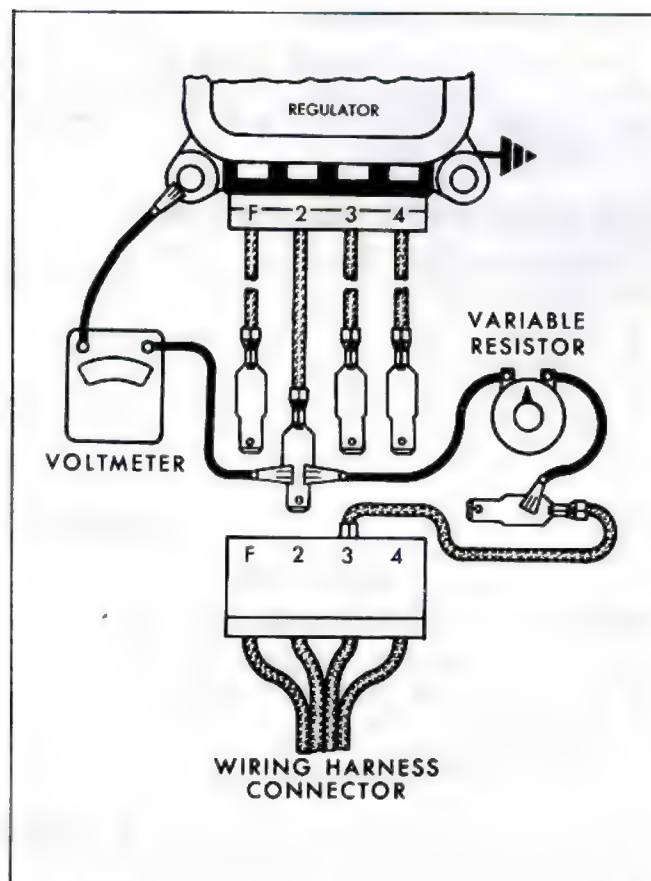

Fig. 11c—Checking Field Relay Closing Voltage
1. Make connections as shown in Figure 11c using a 50 ohm variable resistor.